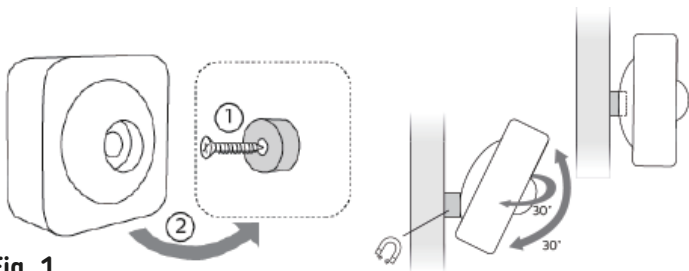

Fig. 1
- Ensuring not to infringe with any gas / water pipes or electrical cables drill a hole into the installation area and affix the magnet with the included fixing screw and wall plug (see Fig.1)